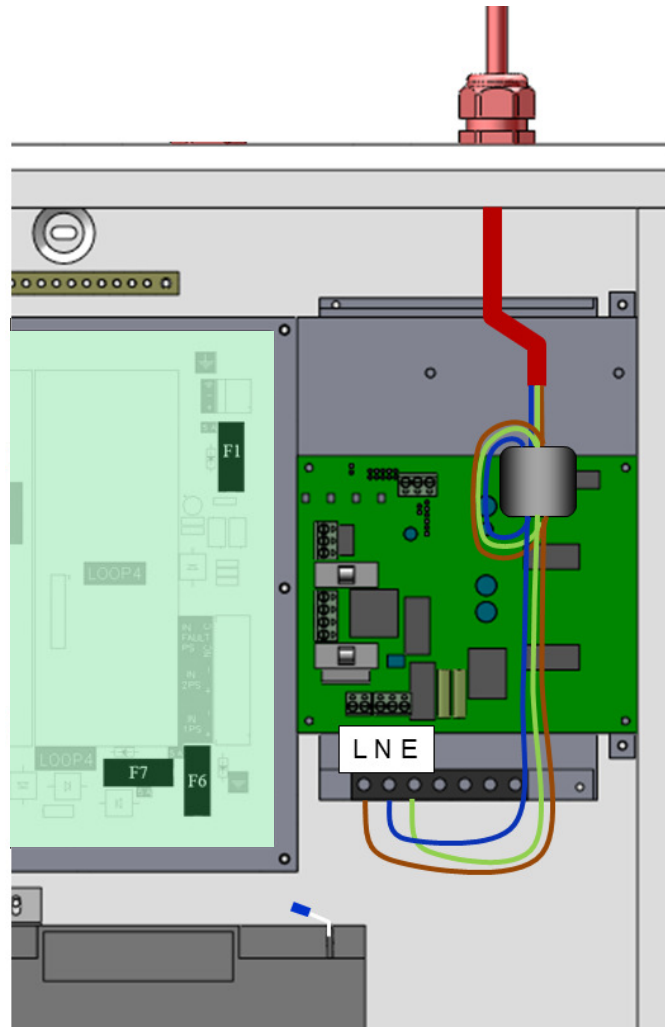

Figure 3: Power Supply PCB layout and Mains connection details
The AC Live (L), Earth (E) and Neutral (N) connections are marked on the power supply cage (top right of Figure 3). It is essential that the mains Earth cable is connected to the PSU's Earth terminal. The incoming mains cable should be kept separate from the loop cables to help minimise mains interference.